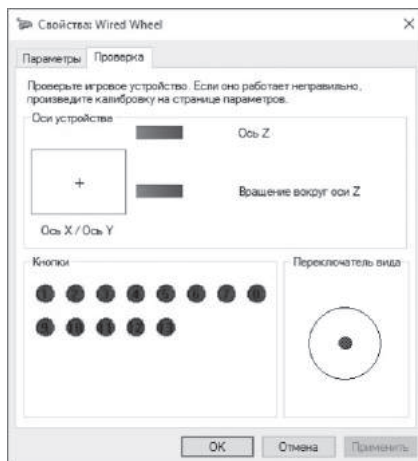

Fig. 7
- Click on the «Properties» (Свойства) button and the «Wired Wheel» (Свойства: Wired Wheel) window will appear on the PC's display (see Fig. 7). Here you can check the operation of the axes and keys.